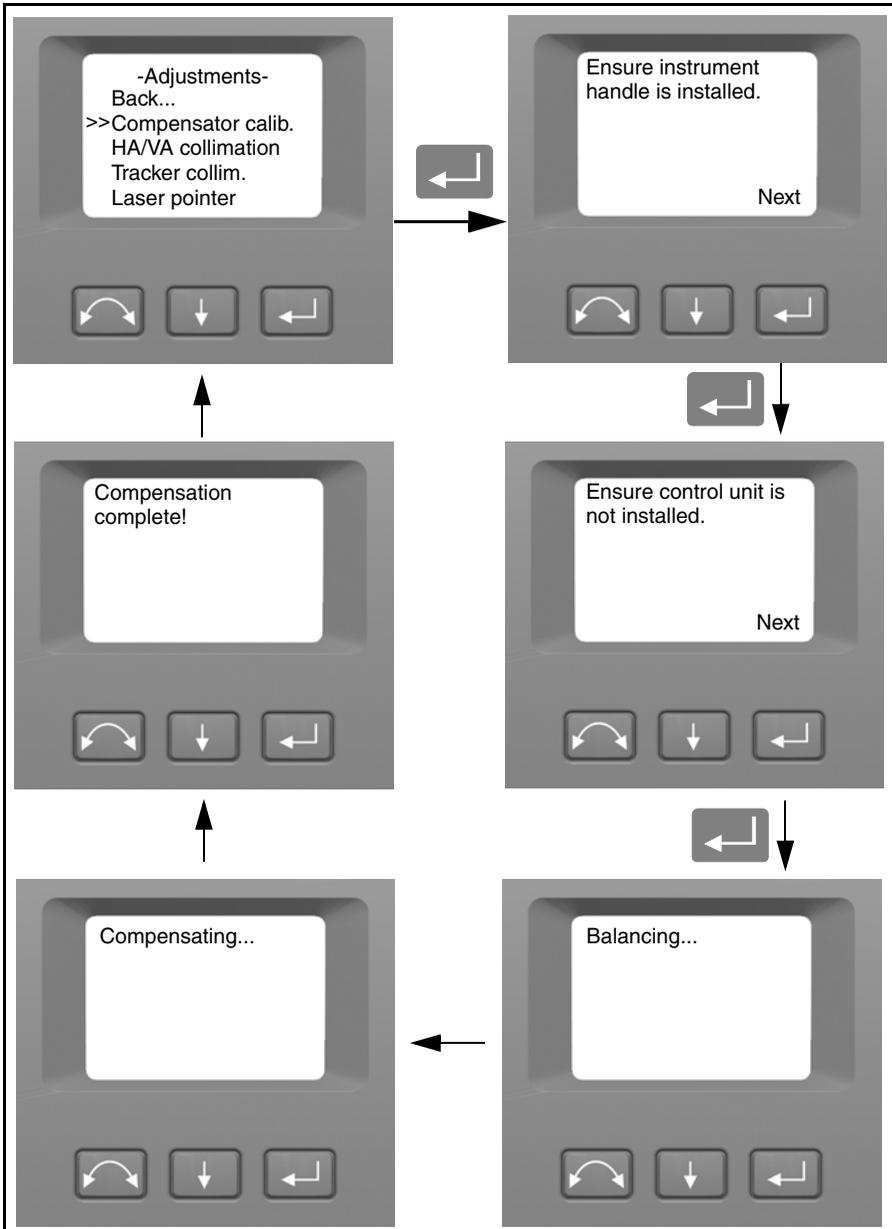

Figure 4.26 Compensator calibration routine
3. Follow the instructions in the display. Figure 4.26.